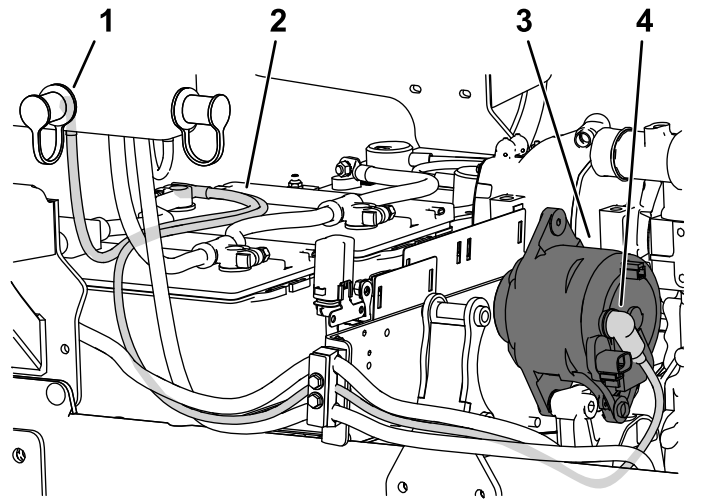
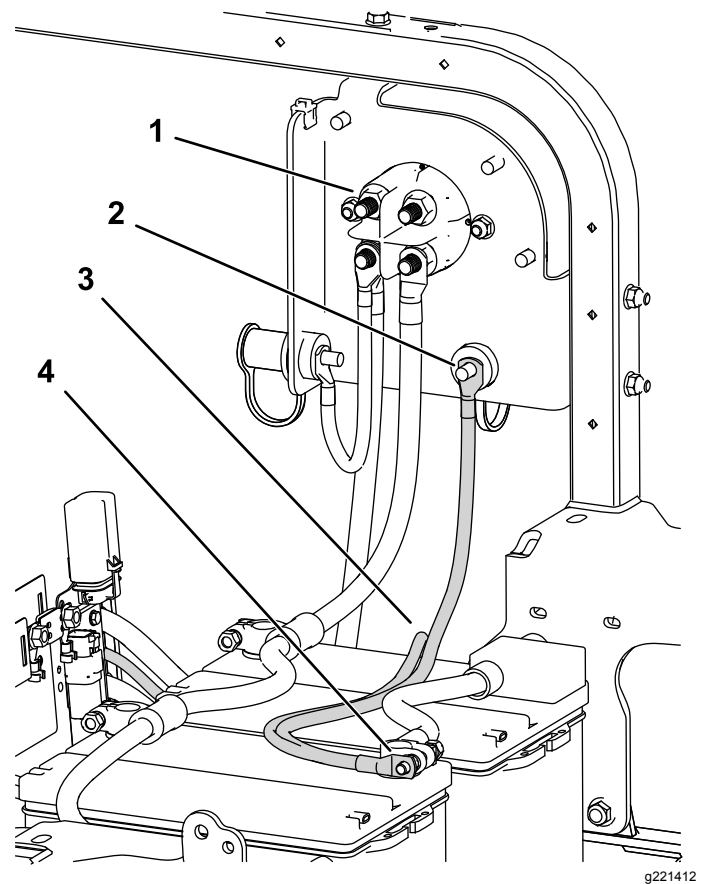

Figure 5
Figure 6
1. Disconnect and discard the positive (red) battery cable from the positive battery jump post, the battery post connector, and the 12VDC alternator (Figure 5 and Figure 6).